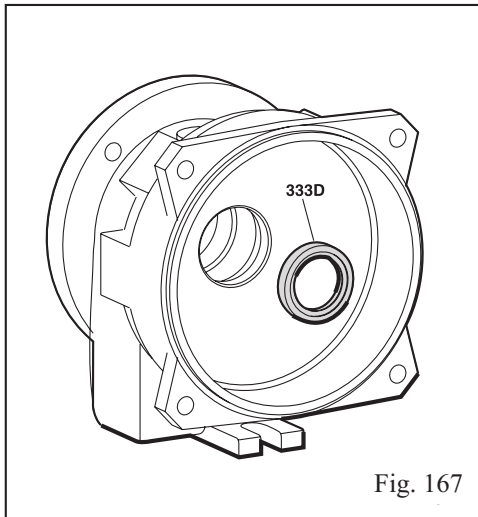

Fig. 167
17. Install the lipseal (333D) in bearing frame (228) (Fig. 167).